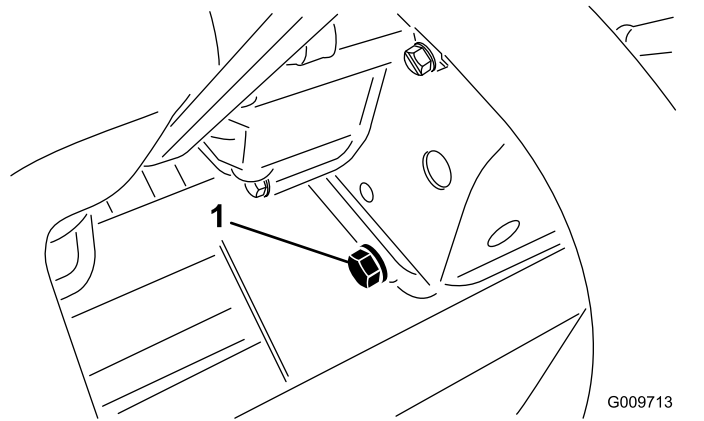

Figure 79
2. Remove the drain plug (Figure 79) and let the oil flow into a drain pan.